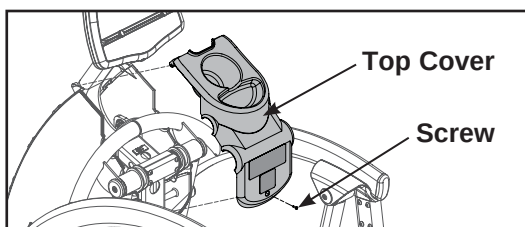

Figure 5
- A. Using a Phillips screwdriver, remove the screw securing the top cover. See Figure 5.